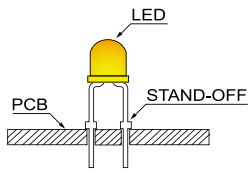
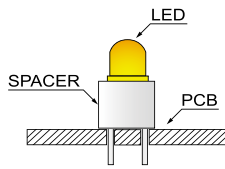

Fig. 3
Fig. 4
- Use stand-offs (Fig. 3) or spacers (Fig. 4) to securely position the LED above the PCB.